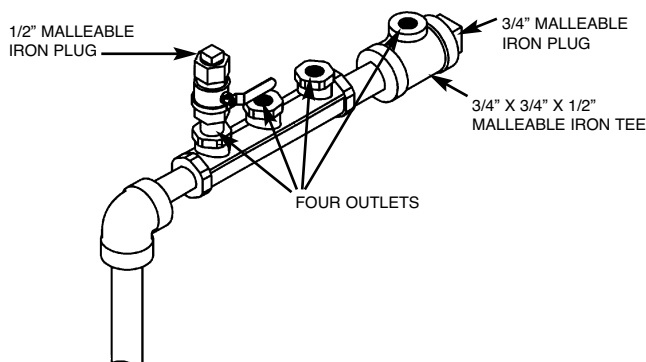

Figure 4.36
- If the required number of appliances/outlets is more than the number of manifold ports, connect a tee or an additional manifold to provide for the extra required ports (See Figure 4.36).